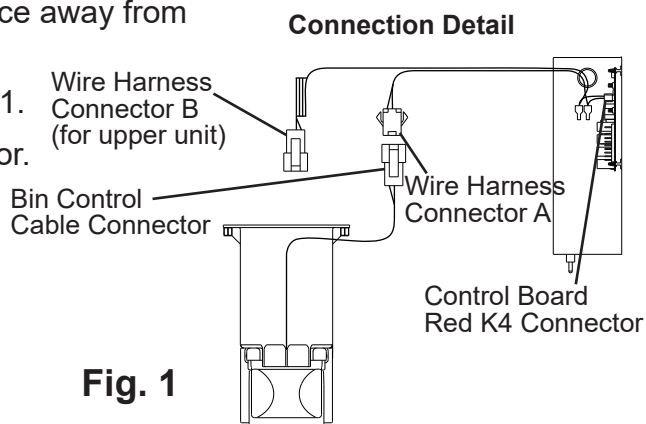

Fig. 1
- 4) Check BC wire harness connections. See Fig. 1.